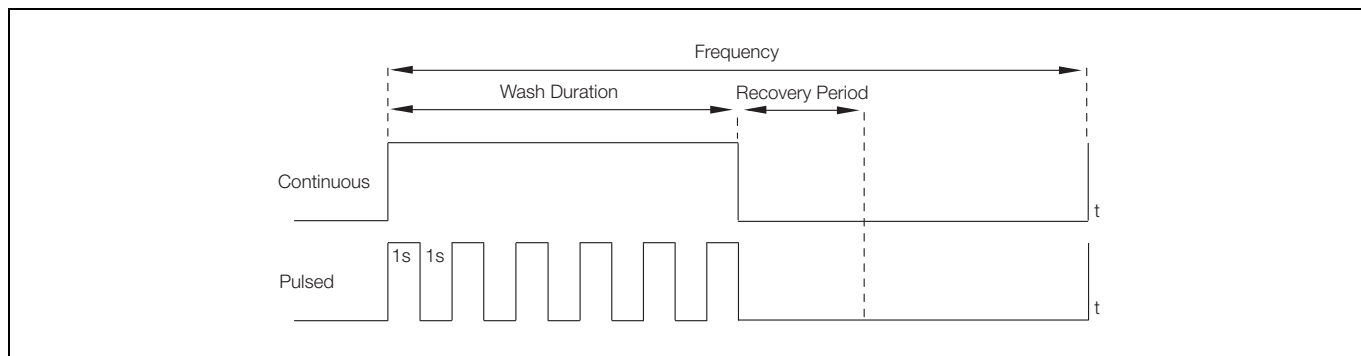

Fig. 5.1 Pulsed and Continuous Wash Cycles
- Pulsed – the relay is switched on and off every second for the duration of the wash, – see Fig. 5.1.